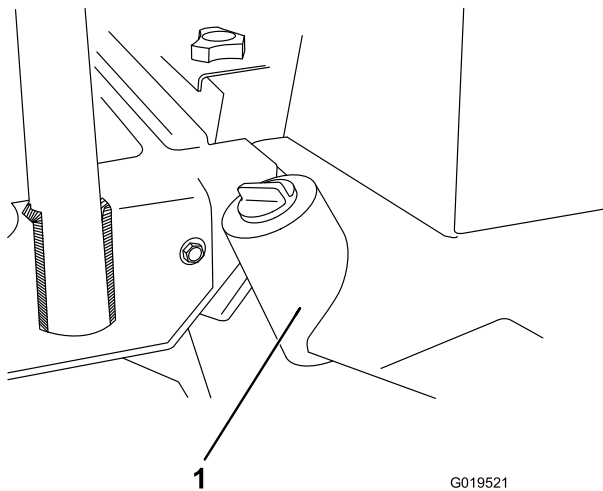

Figure 74
2. Remove drain plug from bottom of reservoir (Figure 74) and let hydraulic fluid flow into drain pan. Install and tighten plug when hydraulic fluid stops draining.